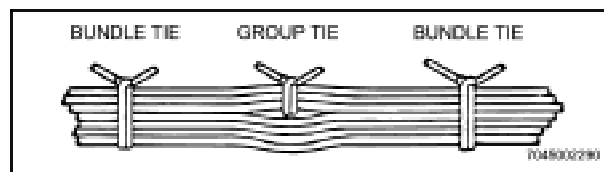

Figure 4-1 Group and Bundle Ties
7. When several wires are grouped at junction boxes, terminal boards, panels, etc., retain the identity of the group within a bundle by spot ties, as shown in Figure 4-1.